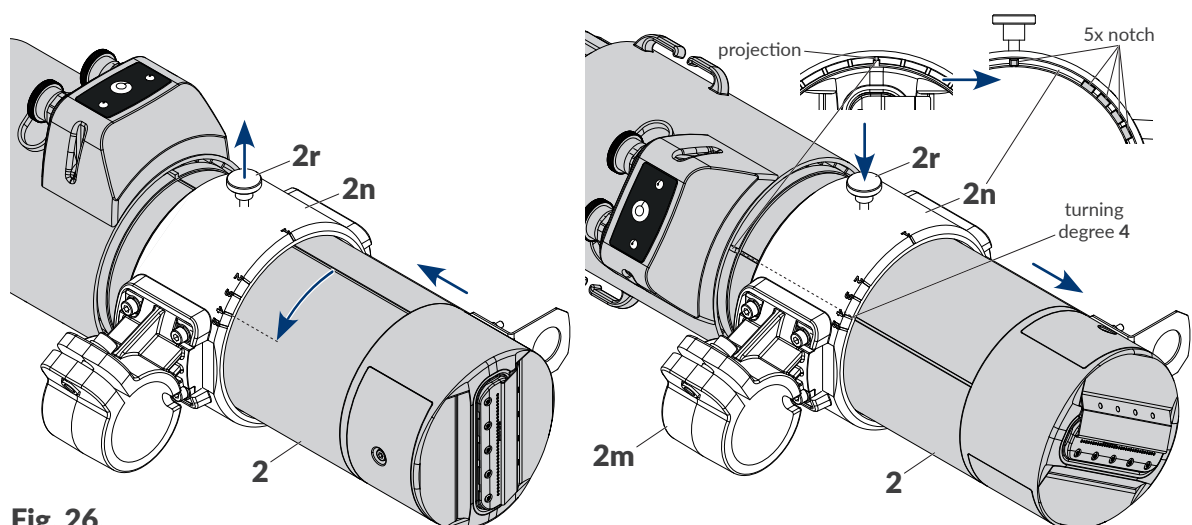

Fig. 26.
- Change the degree of turning of the integrated printhead (**2**, see Fig. 26) to reduce print height. The degrees of turning are marked on holder **2n**.
1. Loosen handwheel **2r** (see Fig. 26).
The degree of turning shown in Fig. 26 on page 30 is 4.